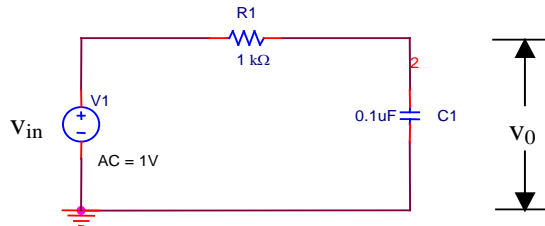
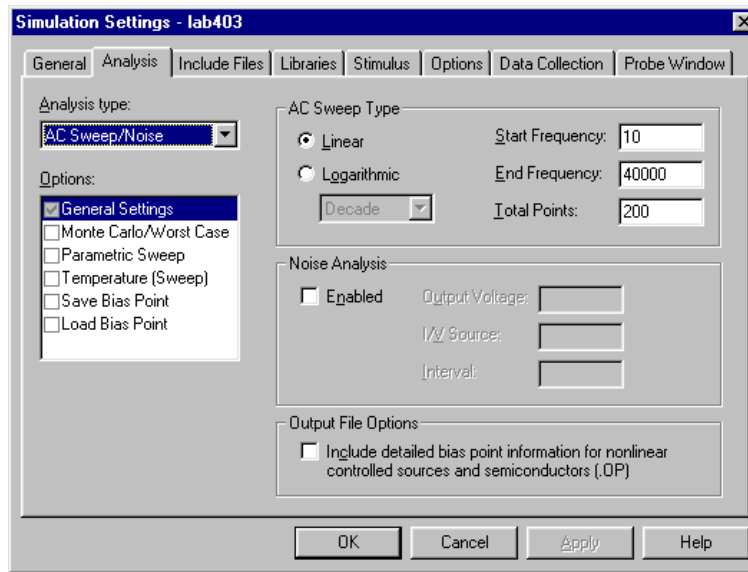

Figure 1a. RC Circuit
Figure 1b. PSpice "simulation profile" for frequency sweeping.
General Guidelines: Draw schematics for the circuits indicated in Figures 1a and 2. Use source VSRC, AC = 1. Since $v_{in} = 1$, v_o itself will give the desired response. Some of the PSpice parameters are shown on the diagram. **Setup:** AC Sweep, Linear and specify the frequency range as shown in Figure 1b. Refer to the PSpice Supplement.
1. Let the circuit of Figure 1a be excited by a sinusoidal source whose frequency varies from 10Hz to 40 kHz. Use PSpice to obtain a plot of $|v_o/v_{in}|$ versus frequency. **In Probe, set the x axis setting of the plot to log scale.**